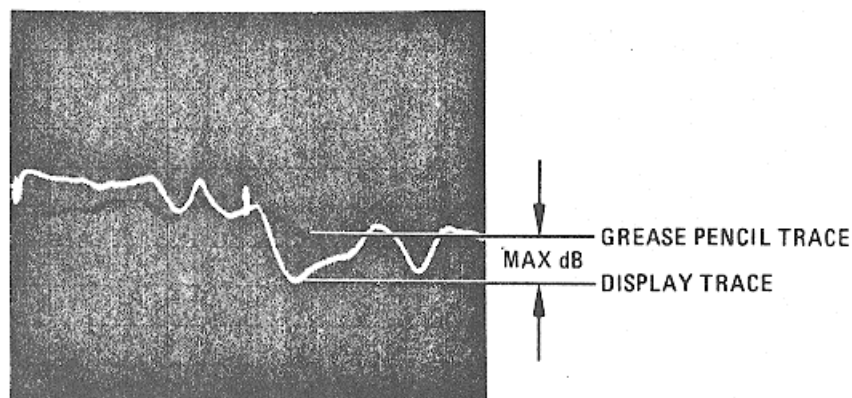

Figure 7. Transmission Frequency Response Magnitude
- (1) Set 8502A RF INPUT ATTENUATION control to zero dB.
- (2) On 8505A Signal Processor Channel 1 press REF OFFSET pushbuttons to center the display around the grease pencil magnitude trace.
- (3) Measure the maximum difference between the grease pencil trace and the display trace (Figure 7). This measured value should be <0.8 dB.